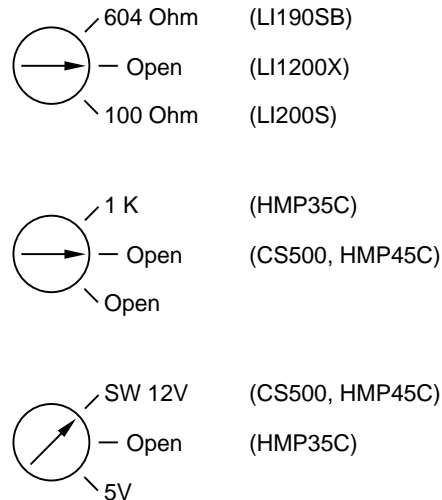

FIGURE 3.2-2. Default Sensor Switch Settings
- 4) Configure sensor switch settings as shown in Figure 3.2-2 if necessary.